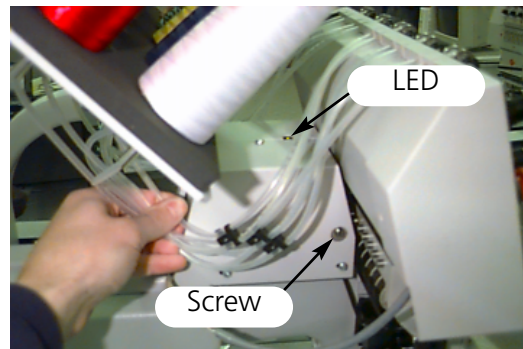

Figure 6-1
1. Locate the Color Change Cam reset screw (it is a flat-head screw). On the EMT 10T, it is on the left side of the head (as you are facing the machine), behind the needle case. On the EMT 10/4 and 10/4T it is on the right side of head #1 (as you are facing the machine), behind the needle case. Figure 6-1 shows the locations on an EMT 10T. The LED and screw are in the same locations behind head #1 on an EMT 10/4 or 10/4T.